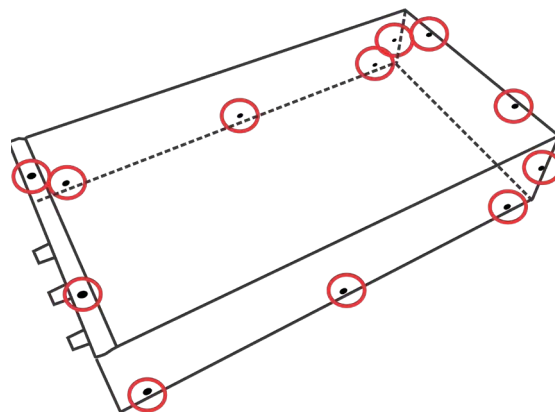

Figure 8.1 – 7114/7118 Cover Screw Locations
2. Use a #1 Phillips screwdriver to remove the Phillips-head screws, as shown in **Figures 8.1** and **8.2**.